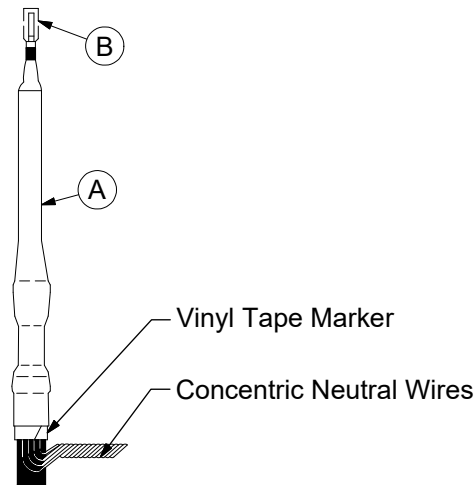

Figure 5
11. Collect all neutral wires together and connect to system ground. See Figure 5.